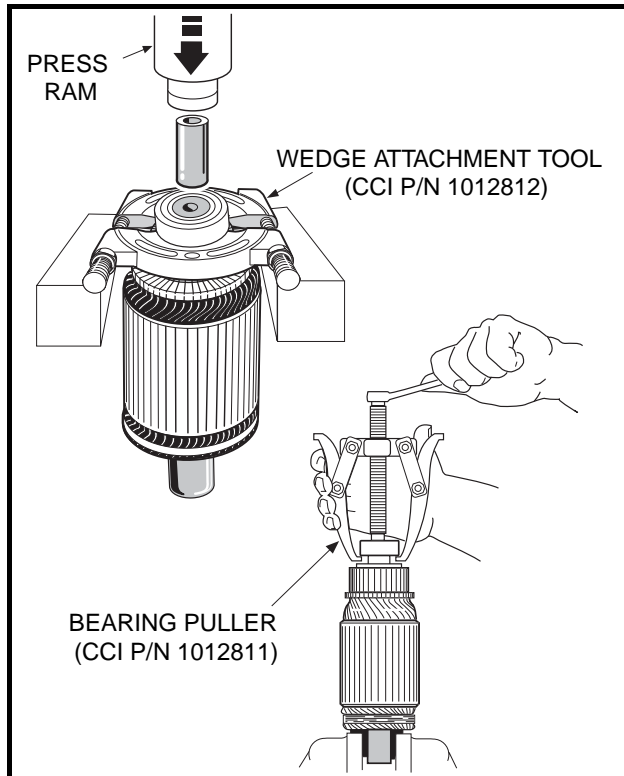

Figure 15a-11 Bearing Removal
- 2.1. With brush rigging facing down and held slightly above stator shell, insert the two terminal posts through insulators in stator shell wall at the A1 and A2 positions. Insert brush holder screws through the holes in the brush rigging and into the threaded holes in the mounting bracket (**Figure 15a-12, Page 15a-12**). Tighten the screws to 20 in-lb (2.3 N·m).
- 2.2. One at a time, push brush spring extensions back from brushes and slide the brushes back until they are completely retracted into their mounting slots. Then position the brush springs against the sides of the brushes so that spring pressure will hold them in the retracted position (**Figure 15a-6, Page 15a-5**).